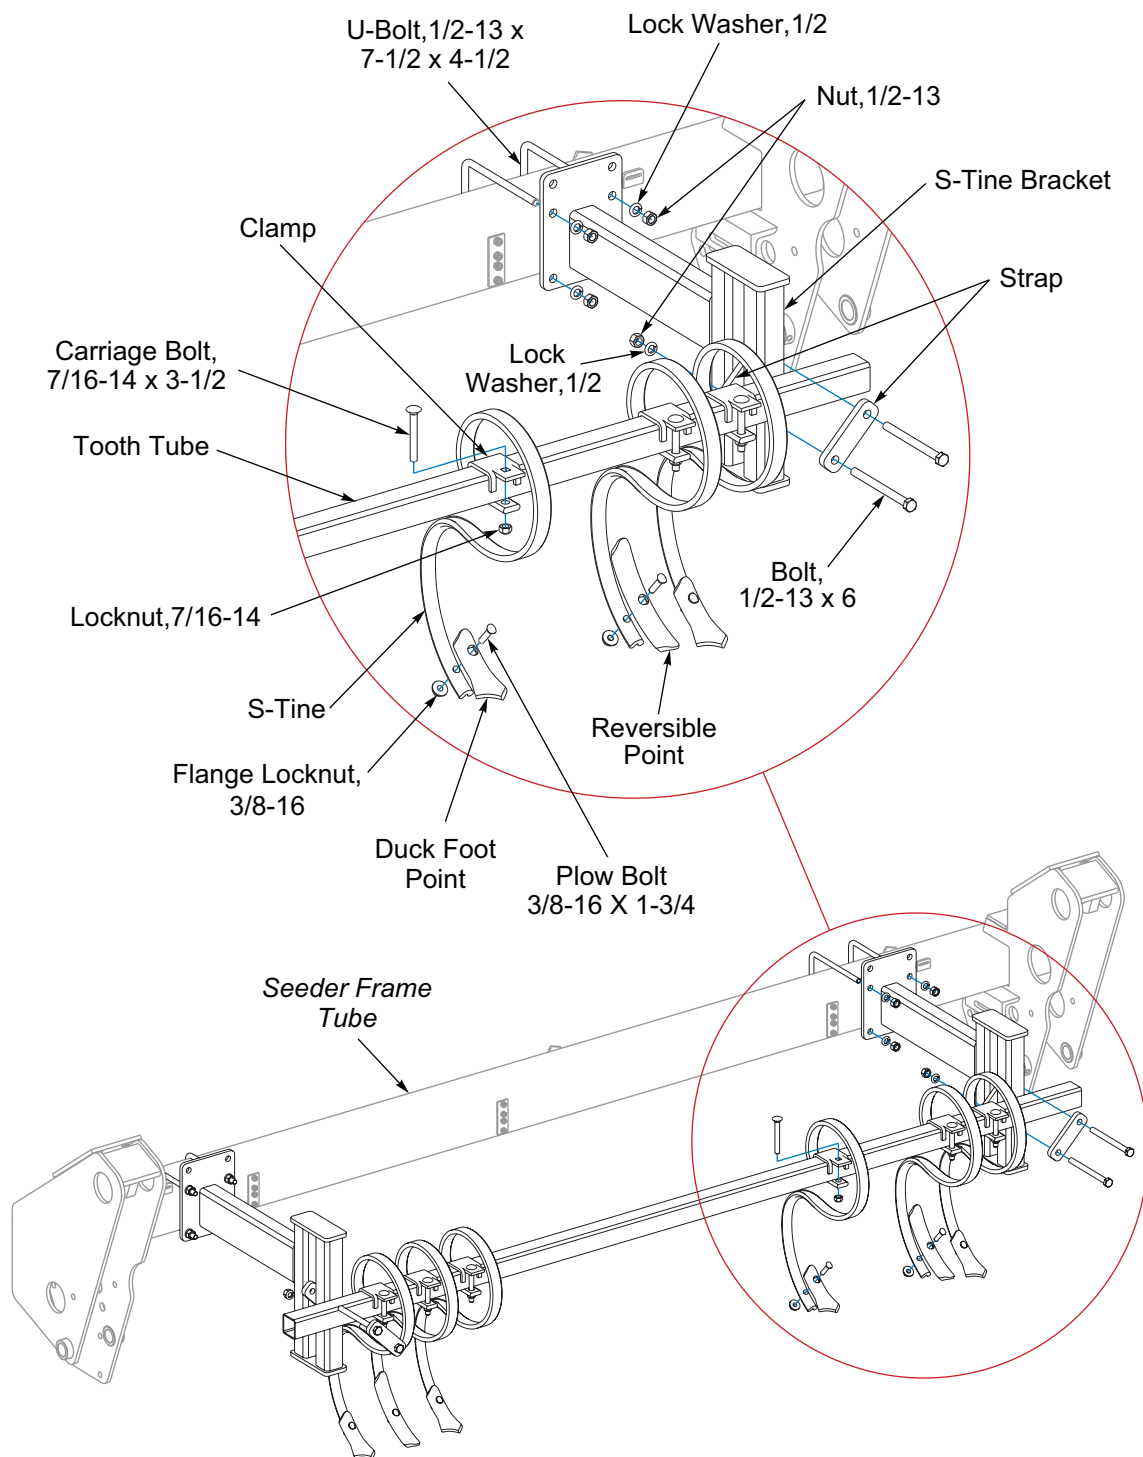
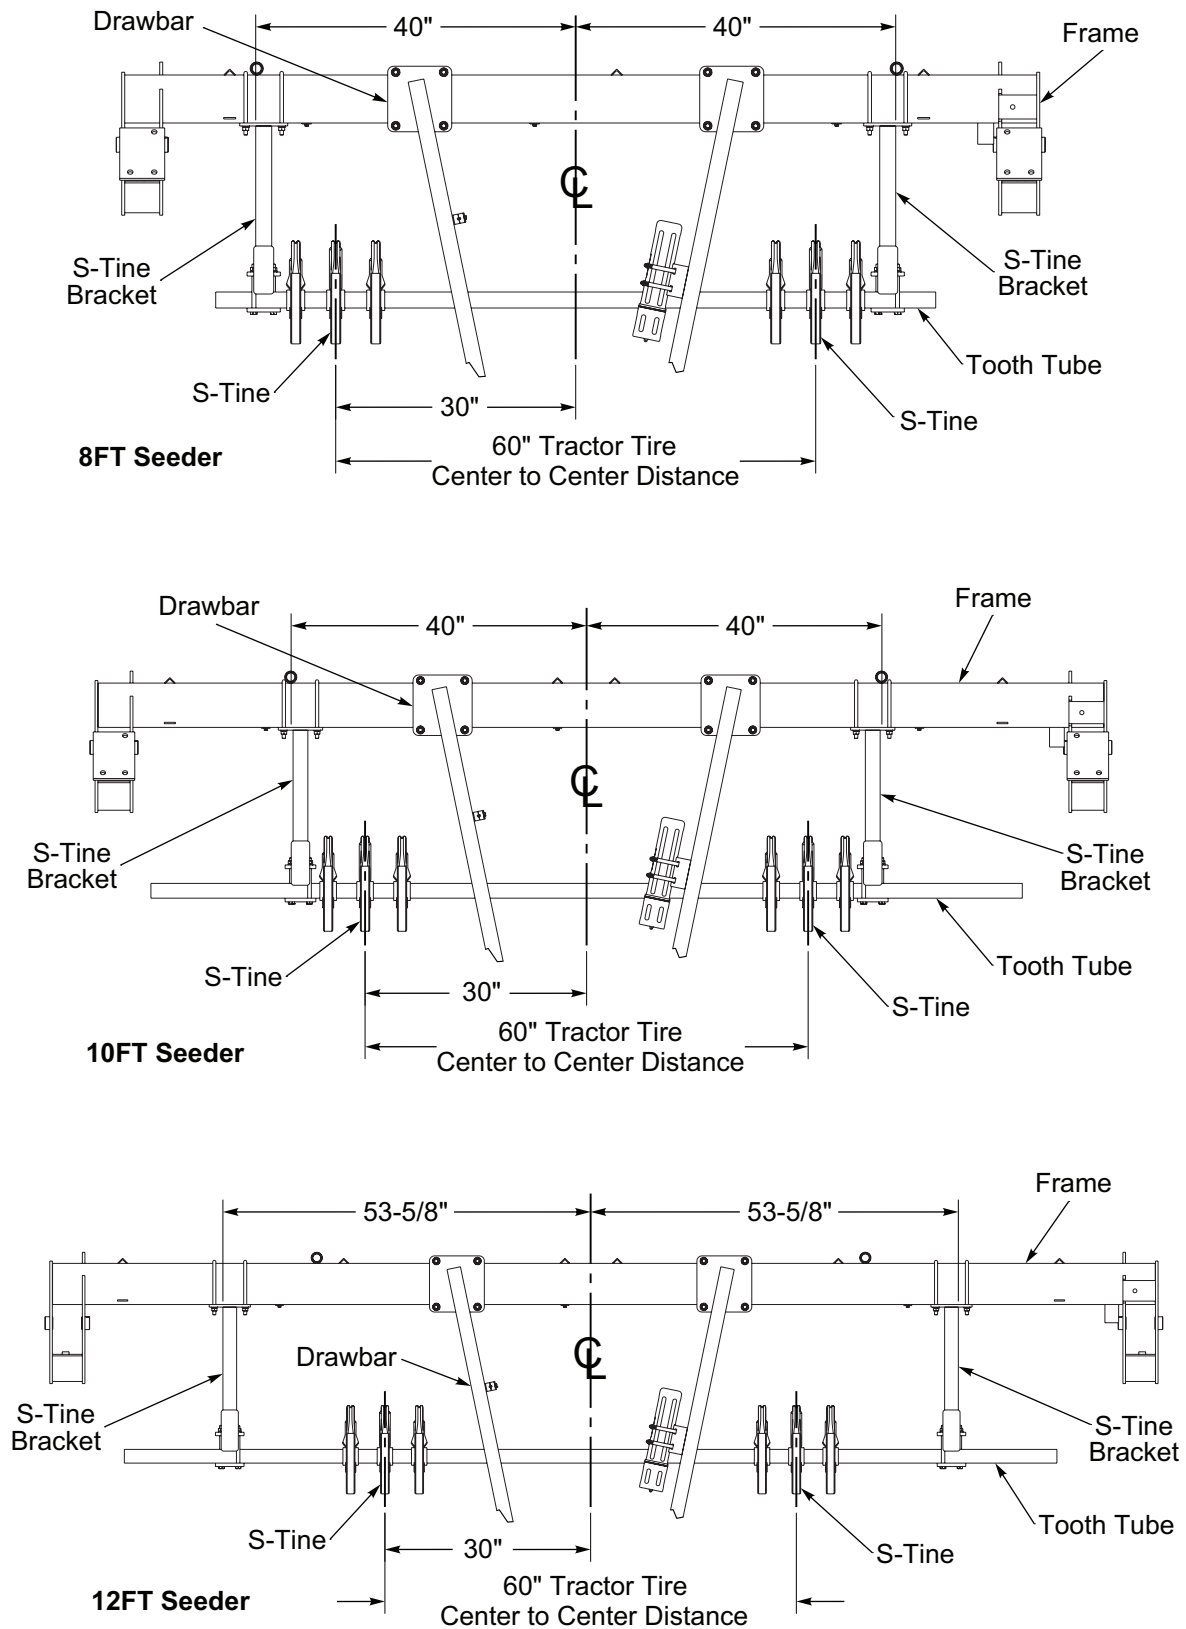

Figure 2-68: S-Tine Track Remover Kit - Optional
Figure 2-69: S-Tine Mounting Dimensions
*S-Tine Brackets and S-Tines should be positioned per application. Use **Figure 2-69** only as a reference.*
1. Center and position the S-Tine Brackets in relationship with the center of the Drawbar or 3-PT Hitch to the front of the Seeder Frame Tube. **See Figure 2-69.** Secure S-Tine Brackets to the Seeder Frame Tube with 1/2-13 x 7-1/2 x 4-1/2 U-Bolts, Lock Washers and Nuts. **See Figure 2-68.**